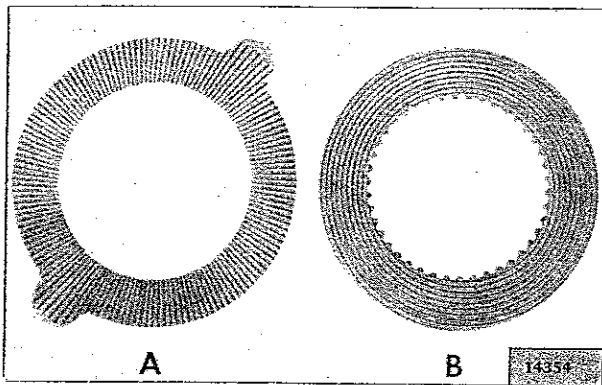

FIG. N-47—PLATE AND DISC IDENTIFICATION
f. Example of radial groove plate (A) and the concentric groove disc (B) shown in Fig. N-47.